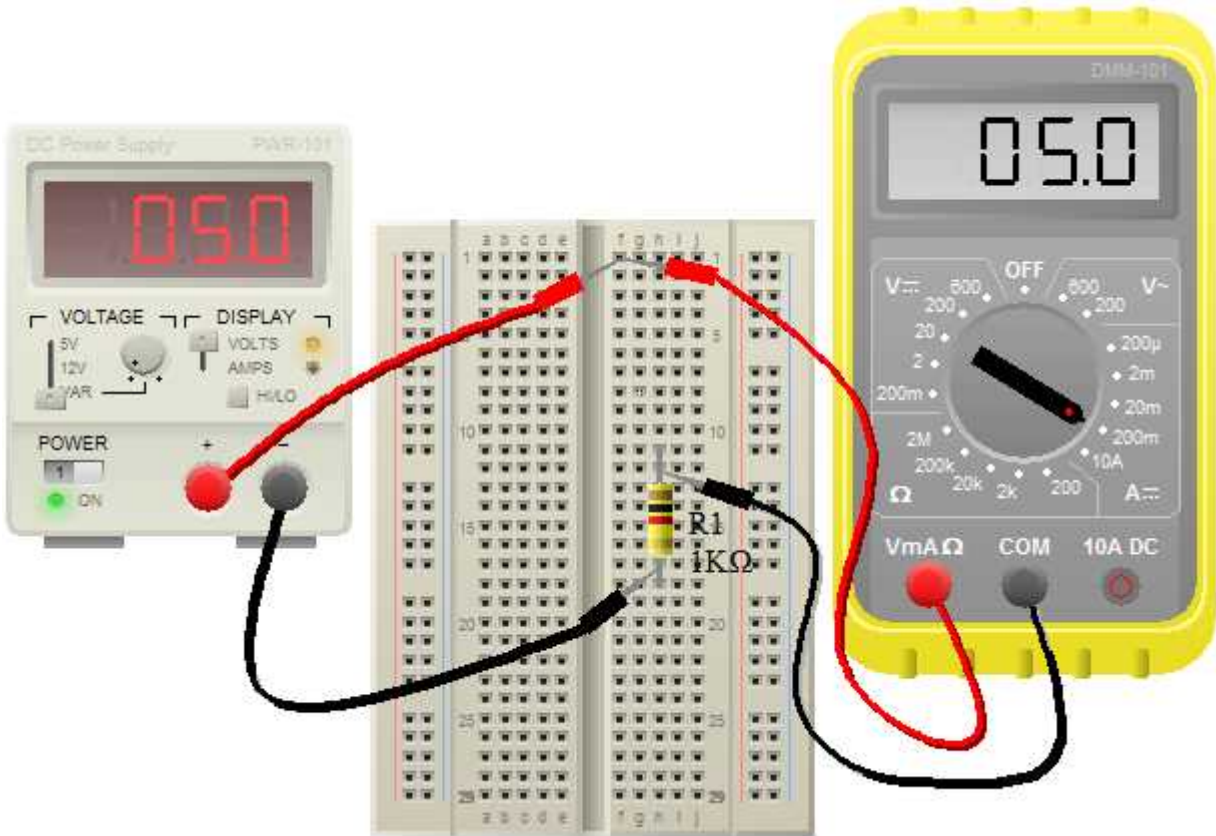

Figure 2-12: Effect on the current by changing voltage with resistance kept at a constant value
1. Connect the circuit as illustrated in pictorial view figure 2-12.